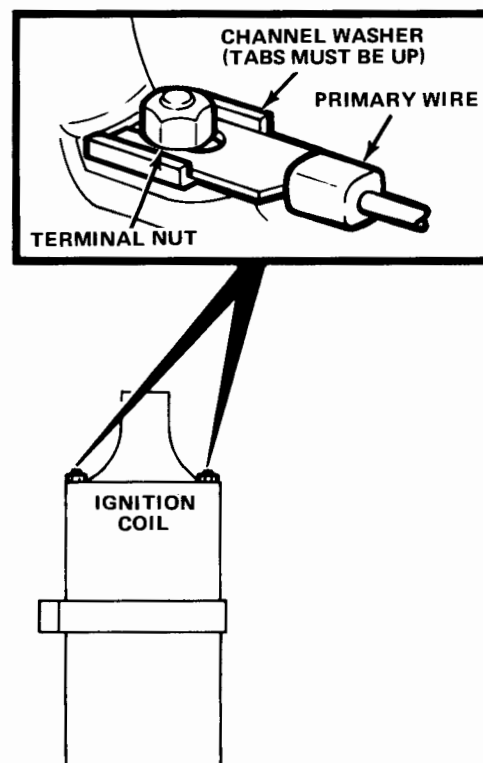

Fig. 3-52 Coil Primary Connections
(4) Inspect coil primary connections for looseness and proper assembly sequence (fig. 3-52). Wire terminal(s) must be between channel washer and nut. Channel washer tabs must be up. Reposition and tighten if required.